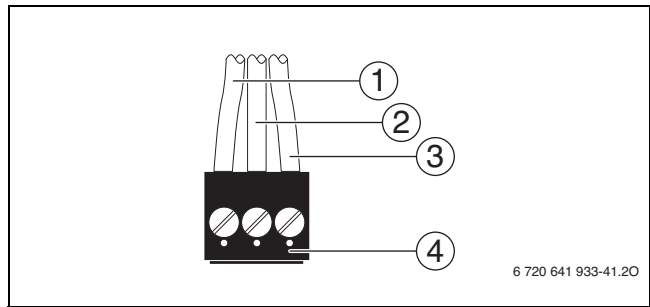

Fig. 47 Attach plug (external pump)
- ▶ Connect cable to the **black plug** according to Fig. 47.